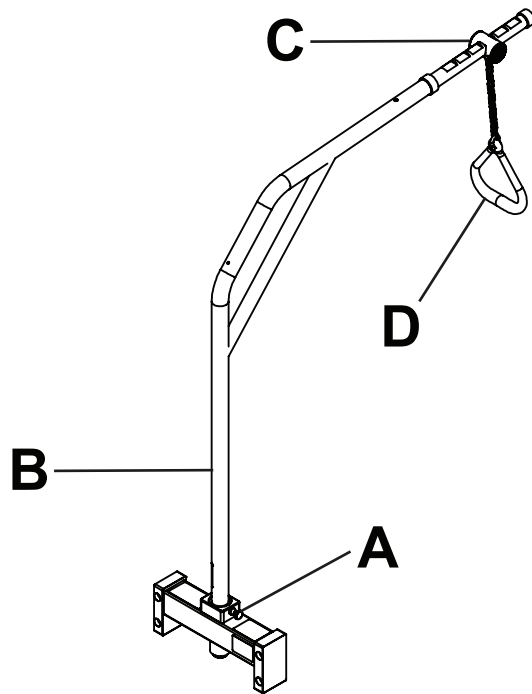

Figure 27 – Adjusting the patient helper
1. Pull the patient helper knob (A) and rotate the lifting pole (B) until the patient helper is centered over the bed (Figure 27).
2. Release the patient helper knob (A) and rotate the lifting pole (B) until the knob locks in position (Figure 27).
3. Lift the trapeze hanger bracket (C) and move it forward or backward until the desired position (Figure 27).